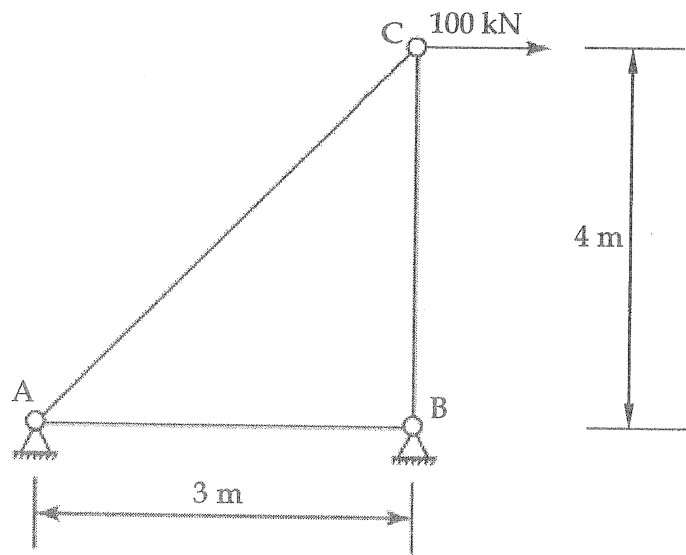

Fig. Q2
(b) An idealised truss structure shown in Fig. Q2 is to be used as a one leg of an advertising board supporting structure. The cross sectional area (A) of all the members is 100 mm^2 and Young's modulus (E) is 210 GPa. Using matrix flexibility method, determine member forces and horizontal displacement at Node C. Take flexibility coefficient of a bar element as $f = \frac{L}{AE}$.